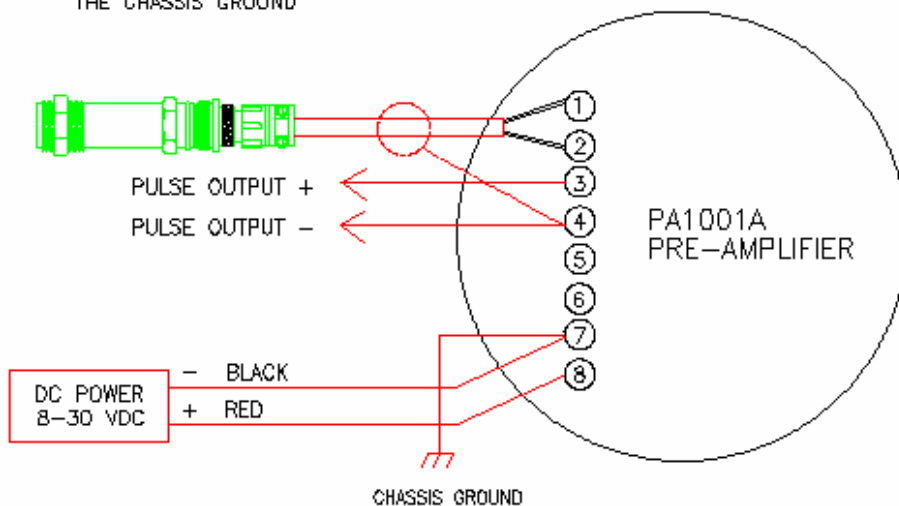

Figure 2
1. Connect a two conductor shielded cable from the pickup to Terminals 1 and 2. Connect the shield to Terminal 4 (see Figure 2). NOTE: It is also preferable that the pickup coil be grounded to the shield.
2. Connect a power source, which must be within 8-30 VDC, to Terminals 7 and 8. The Plus voltage is connected to Terminal 8 and the Return to Terminal 7(see Figure 2).
3. Connect the Pulse output wire to Terminal 3, and connect the Pulse common to Terminal 4 (see Figure 2).